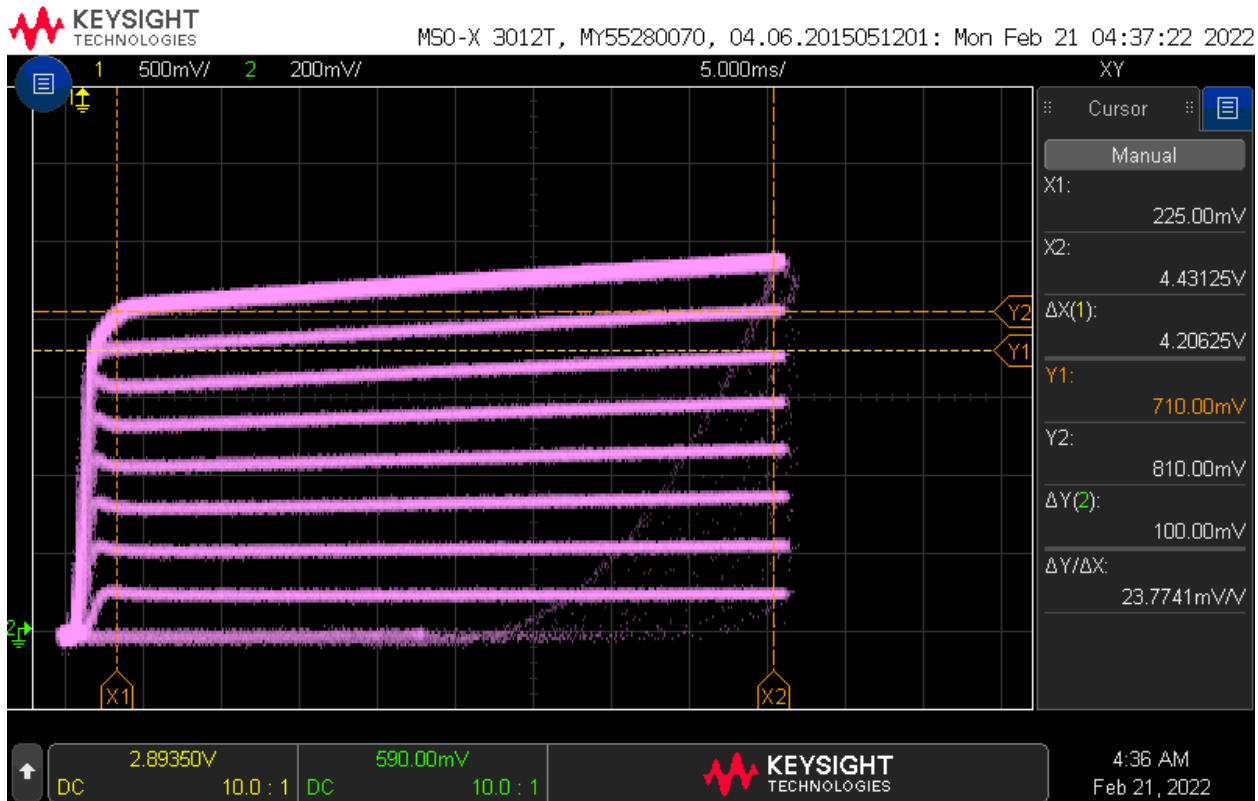

Figure 13: The BJT family of curves for the DUT. Try hitting the Run/Stop button on the oscilloscope to improve the image quality.
You should see something similar to Figure 13. You may adjust the Ch 1 and Ch 2 scale to make the family of curves fill the occupied space on the screen. Adjust the Ch 1 and Ch 2 offset so that the lower left corner of the family of curves is at the intersection of the lowest, left visible reticule. I will refer to the lower-left corner of the family of curves as the **origin**.
The following text will be color coded red, orange, or green when it refers to one of the circled areas in Figure 10. The data in this section will be a combination of the information contained in Figure 13 and the base currents found in Table 2. Your values will be different.
1. Fill in the orange circled area of Figure 10 with the scale you set on your oscilloscope. For example, in Figure 13 you should fill in 0.5V for the Ch 1 Scale and 0.2V for the Ch 2 scale.
2. Next, multiply the scale values from your oscilloscope by the respective constants to get the volts/div or mA/div. For example, in Figure 13 you should fill in 0.5 Volts/div for the Ch 1 and 0.9mA/div for the Ch 2.
3. Now, you need to fill in the green-circled area to determine the collector current for each of the curves. You will do this by estimating the height of each curve and fill in this information in the #Divs column. It should be clear by looking at Figure 13 the curves are not perfectly horizontal; they slope upwards. This slope makes it difficult to determine where to measure the height of the curve, so here is a heuristic. Measure the height of the curve at $V_{ce} = 1V$ (2 division to the right of the origin in Figure 13) in divisions.
Table 3: The Gain Calculation table filled in using the information from Figure 13. These gains have very good agreement. Do not be concerned if your values exhibit more variation.
If you extend the flat portion of the highest curves in Figure 13 to the left, the line would intersect the horizontal axis. Since the horizontal axis represents voltage, this intercept is a voltage, called the Early Voltage by analog designers. The Early Voltage area of the BJT Performance Card will assist you in calculating this voltage. Let's see how to fill it in using the data in Figure 13.
We will examine Trace #7 in Figure 13 to explain how you will compute the Early voltage for your DUT. In the active region, Trace #7 is a straight line sloping upwards. Use the cursor function and align the X1 and Y1 cursors at the left end of the active region, where the curve is flat. Next align the X2 and Y2 cursors on the right end of the active region. You can use the X1 and X2 flags at the bottom of the screen and the Y1, Y2 flags on the right side of the screen to interpret the values shown on the right-side menu of the oscilloscope display.
Table 4: The Ealy Voltage table partially filled in using the data from Figure 13.